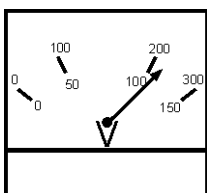
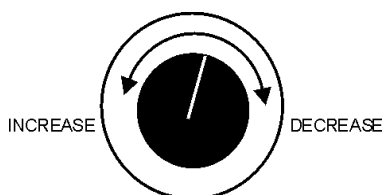

Figure 56. Engine Speed Switch (low)
Figure 57. Voltage Adjust Control Knob
14. The generator's voltage meter (Figure 56) displays the 120 VAC in **VOLTS**. If the voltage is not within the specified frequency tolerance, use the voltage adjustment control knob (Figure 57) to increase or decrease the desired voltage.